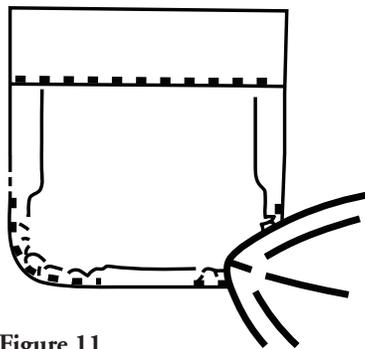

Figure 11
- Press pockets to form even, matching curves on each side of pocket (Figure 11).